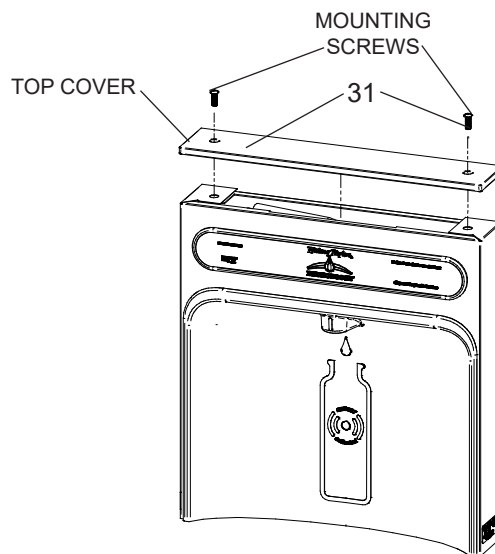
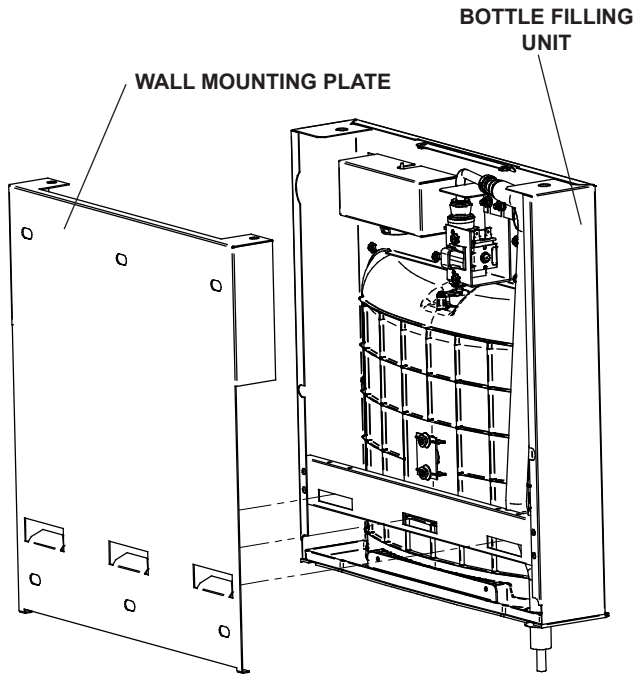

Fig. 8
Fig. 11
- 1) Remove two (2) mounting screws with 5/32" Allen wrench holding top cover to Bottle Filler (See Fig. 8). Remove top cover. Note do not discard mounting screws, they will be needed to reinstall top cover.
- 8) With the power cord and waterline through hole on top of water cooler place Bottle Filler on the three (3) angled tabs protruding from the wall mounting plate installed on wall. Make sure round boss in gasket fits in hole of basin. (See Fig. 11).
- 9) Once Bottle Filler is installed on wall plate tabs, water line and power cord are installed properly, push top of Bottle Filler toward wall and line up top cover two (2) holes.
- 10) Reinstall Top Cover on Bottle Filler (See Fig. 8) with two mounting screws from step 1 above. Caution, do not over tighten screws.